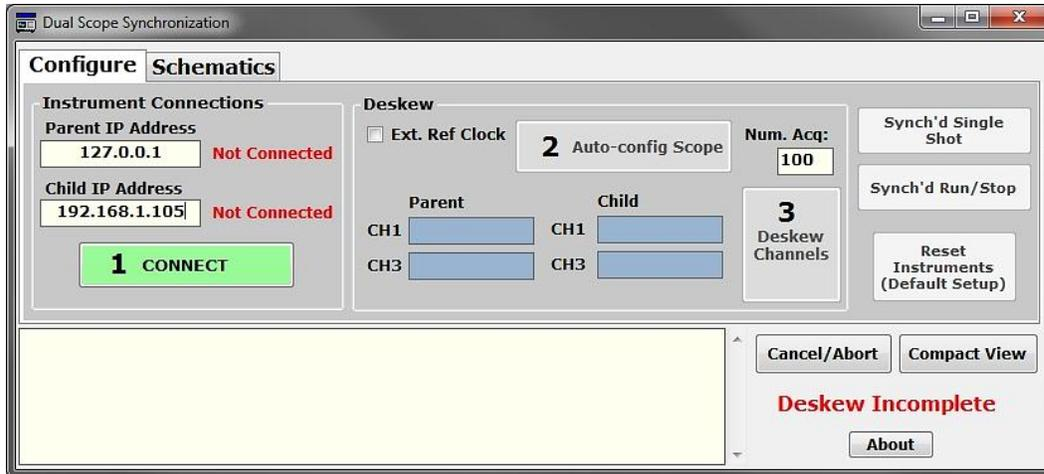

Figure 4: Configure tab view upon initial application startup
3. In the Instrument Connections section (See Figure 4.) of the Configure tab, enter the IP addresses for both the parent and the child into the text boxes on the left side of the application window.